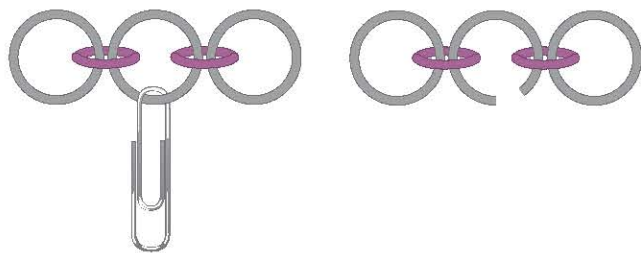

FIG. 1
Thread 1 small open jump ring through 1 of the large jump rings just added and 1 new large closed jump ring. Close the open jump ring and attach a starting aid to the center jump ring (FIG. 1).
2. Make a starting chain using 8 large jump rings and 2 small jump rings, following the instructions for Speed Weaving Parallel Chain Method C and substituting 1 small jump ring where the Parallel Chain instructions call for 2 (**FIG. 1**). Attach a starting aid to indicate the start of the weave.